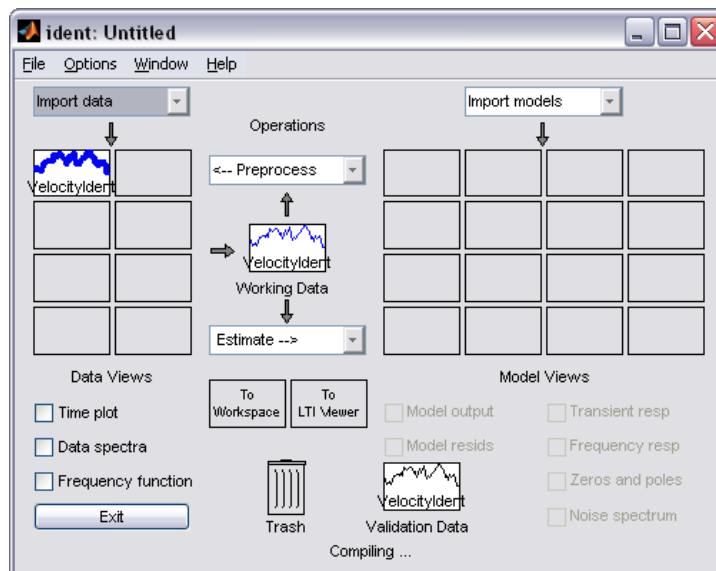

Figure 16 Data imported into ident window
- The *ident* window will appear as shown in Figure 16.